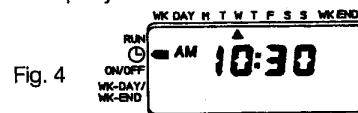

Fig. 4
- iv) Now use the PLUS (+) and MINUS (-) buttons to alter the display to the correct time of day, making sure that the AM/PM symbol is also correct (see figure 4).